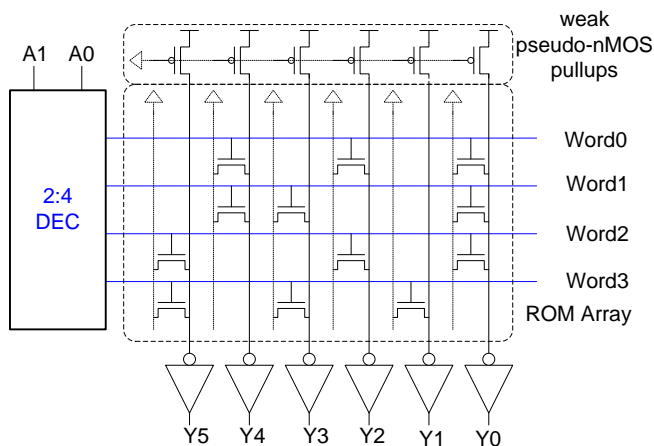

Fig. 10
10. Consider the ROM as shown in Fig. 10 with code Word[n] = [Y5Y4Y3Y2Y1Y0]. (5%)